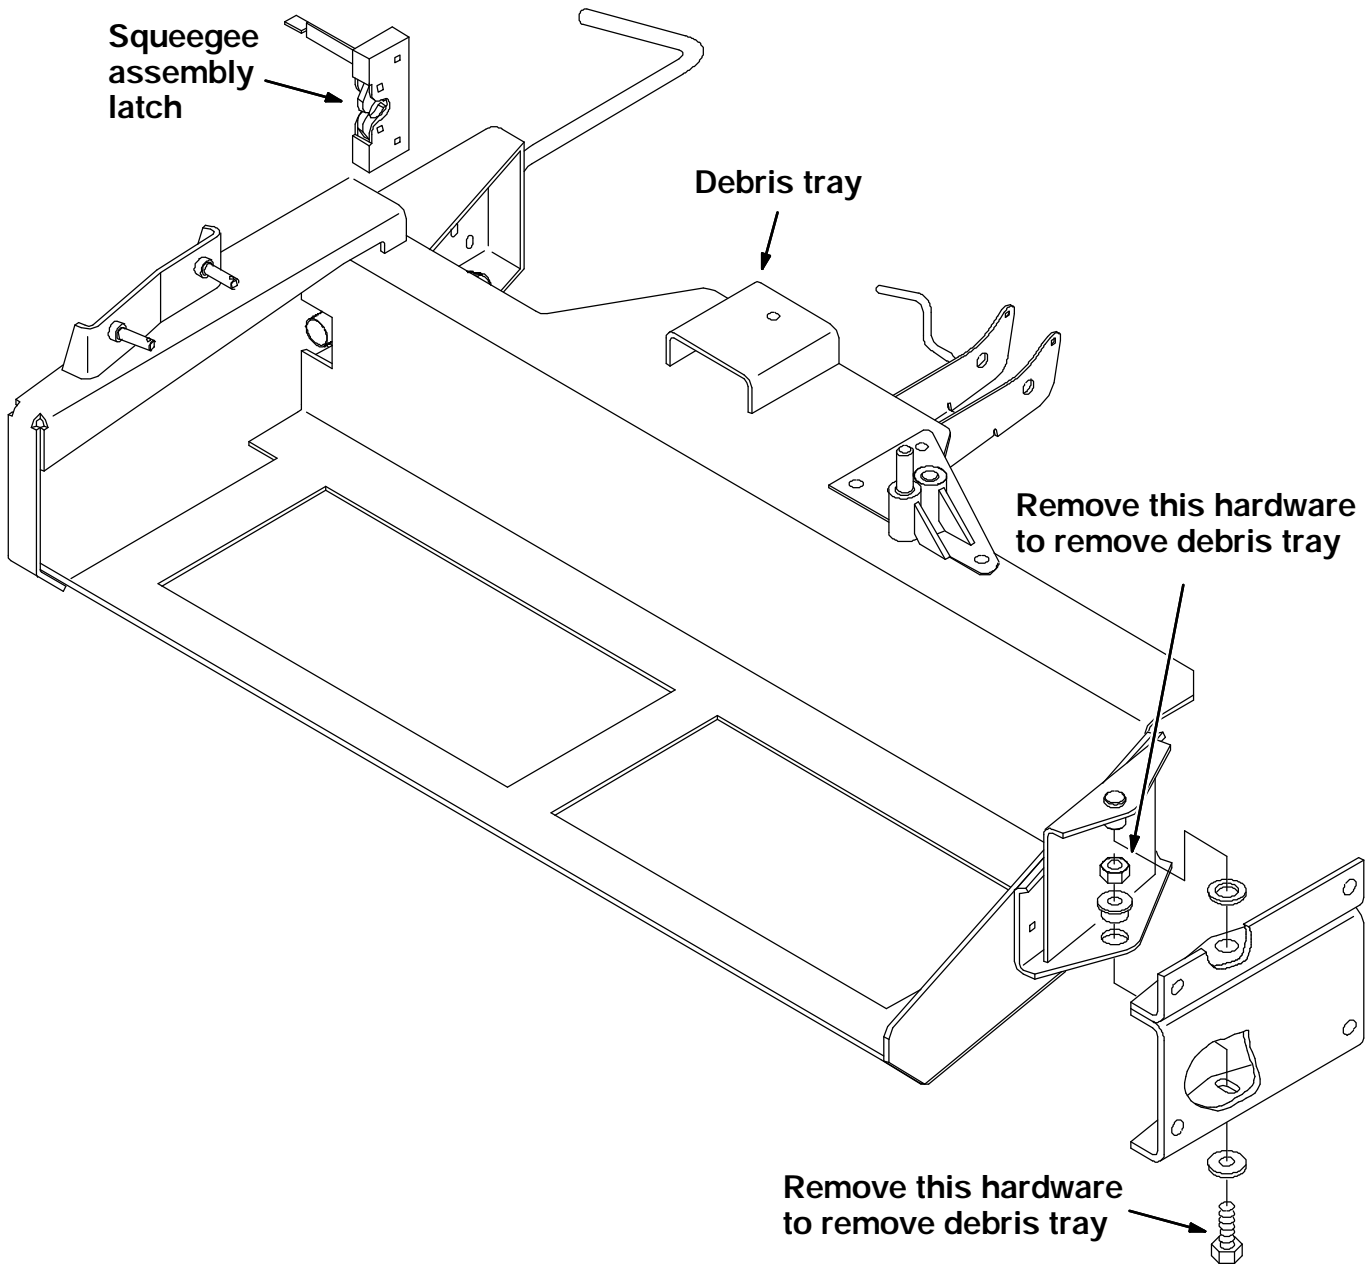

FIG. 1 - Debris Tray Removal
(Refer to FIG. 1, 2 and 3)
1. Open the latch on the rear squeegee and pull the debris tray/squeegee assembly out all the way. (Refer to FIG. 1)
3. Remove the hardware holding the debris tray frame to the left side of the machine frame. (Refer to FIG. 1)
4. Pull the debris tray/squeegee assembly out far enough to access the squeegee lift cylinder. (Refer to FIG. 1)
8. Position the debris tray/squeegee assembly back in the machine. Reinstall the hardware and tighten firmly. (Refer to FIG. 1)
9. Start the machine and raise the rear squeegee. Push the squeegee assembly in until it latches. (Refer to FIG. 1)